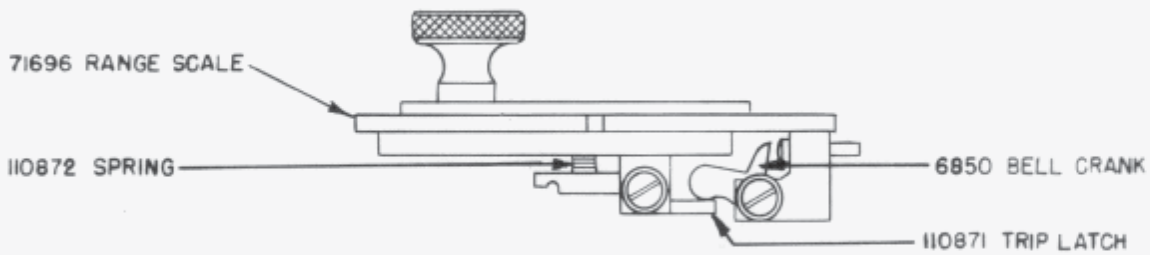

FIGURE 1
2. INSTALLATION (Figures 1 through 6)